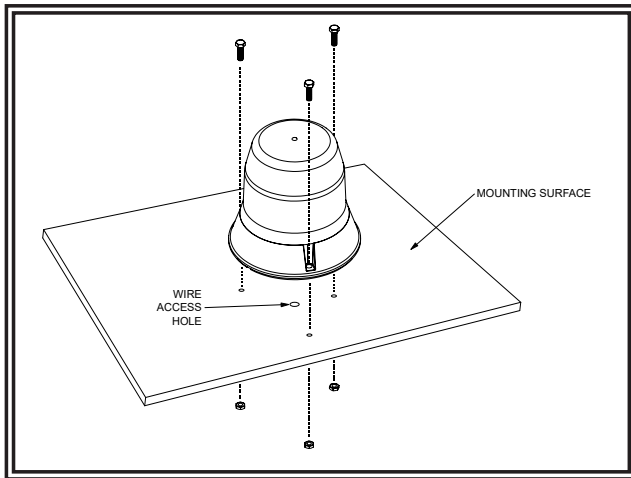
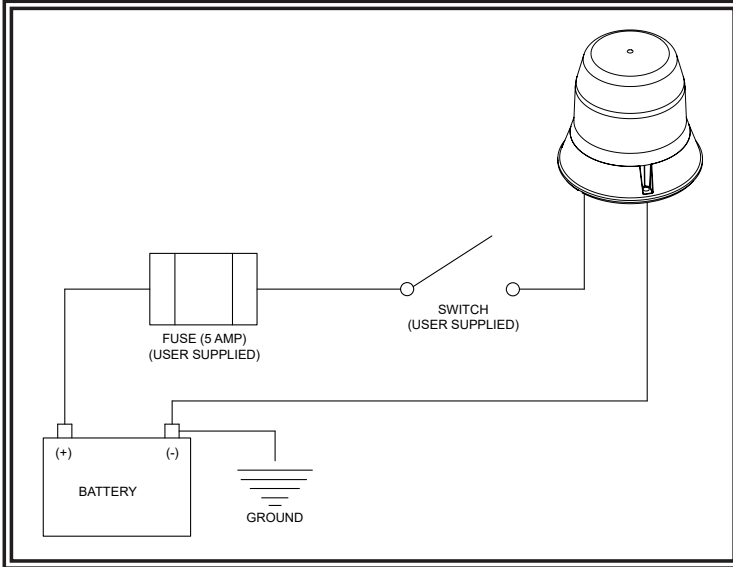
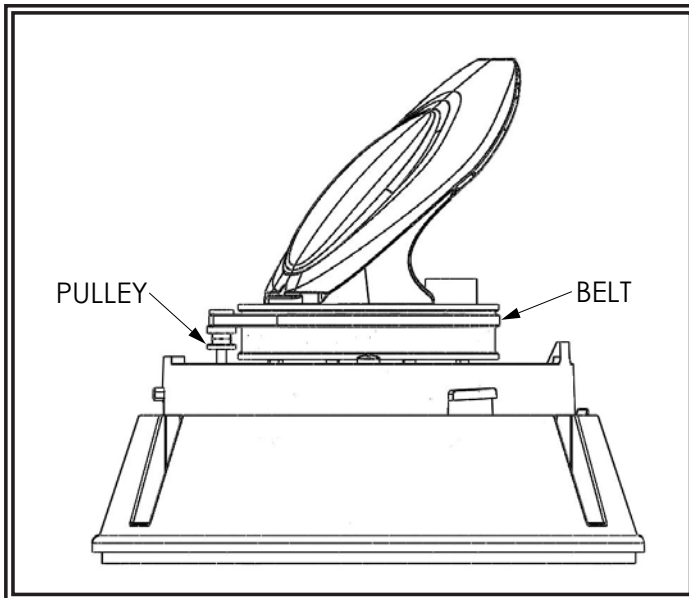

FIGURE 1
FIGURE 4
FIGURE 5
**Three Bolt Mount Rotating Beacon: EB7813 (Refer to FIGURE 1) Quick Connect (DIN/Pole Mount) Rotating Beacon: EB7810**
2. Remove the three (3) mounting bolts from the base.
6. Wire the beacon as shown in FIGURE 4. Apply sealant around the wires where they pass through the mounting surface to prevent leakage.
5. Wire the beacon as shown in FIGURE 4. Apply sealant around the wires where they pass through the mounting surface to prevent leakage.
The wiring is as shown in FIGURE 4. All wiring should be a minimum of 18AWG. The positive line must have a 5 amp fuse, as shown. A switch may be used to control the on/off function. Route the ground wire directly back to negative battery terminal. Pack dielectric grease, such as Dow Corning 4, around each electric connection exposed to moisture or the ambient environment. For a 24 VDC system, remove the lens, move the belt to the upper slot on the pulley as shown in FIGURE 5 and reattach the lens.